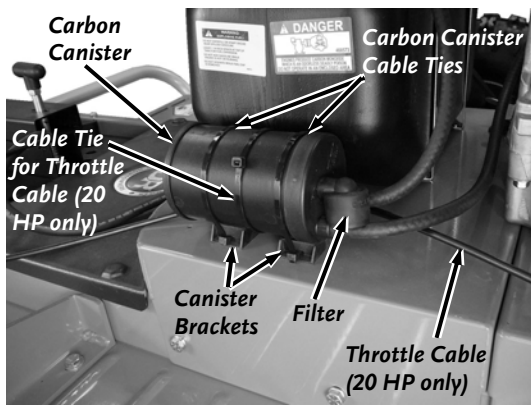

Figure 29
1. 20 HP Kohler only - Cut the Cable Tie that is securing the Throttle Cable to the Carbon canister (**Figure 29**).